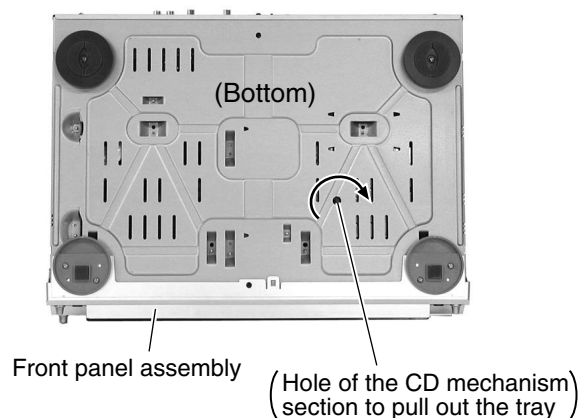

Fig.2
■ Removing the fitting of the CD mechanism section (See Fig.2 to 5)